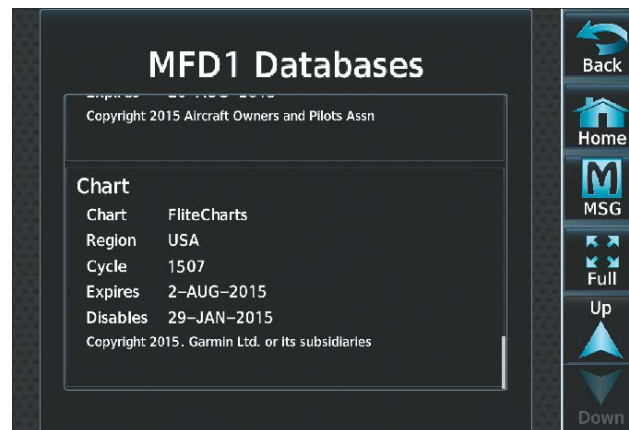

Figure 8-30 MFD FliteCharts Database Information
FliteCharts status information can be found on the MFD1, PFD1, PFD2, GTC1, and GTC2 Databases Screen (Figure 8-30). The 'Expires' date is the revision date for the next database cycle. The 'Expires' date appears in yellow when expired.
- 4) Scroll to display the FliteCharts database information as shown in Figure 8-30.